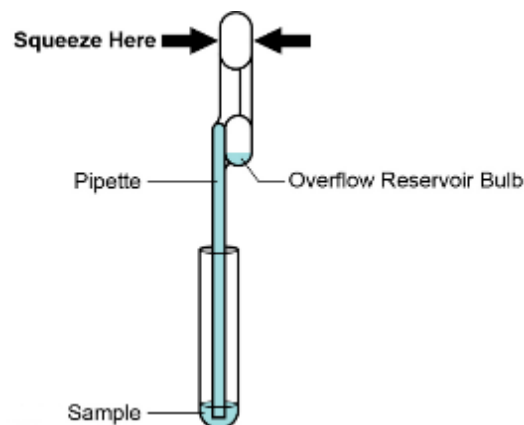

Figure 27. Transfer Pipette
14. Squeeze the top bulb of the transfer pipette **completely until the bulb is fully flat**. While continuing to hold the bulb fully flat, place the pipette tip in the specimen transport tube (see Figure 27).
15. Keeping the pipette below the surface of the liquid, release the top bulb of the pipette slowly to fill the pipette before removing from the tube. It is okay if liquid goes into the overflow reservoir (see Figure 27). Check that the pipette does not contain bubbles.